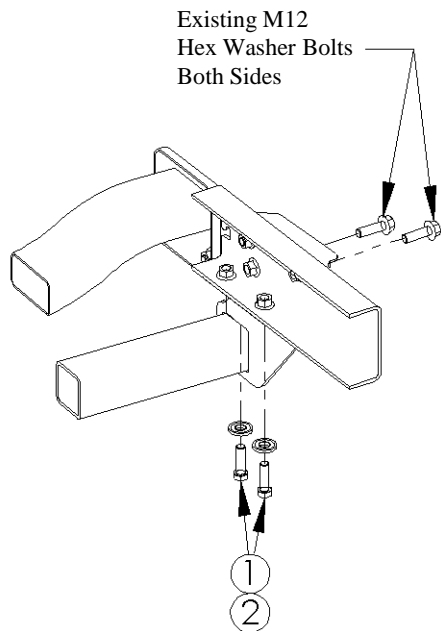

Figure 3
①	Qty. (4)	Conical Washer, 1/2"	③	Qty. (4)	Spacer
②	Qty. (4)	Hex Bolt, M12 x 40 x 1.25
3. Raise the hitch into position so that the side brackets on the hitch are sandwiched between the bumper brackets and frame rails. Install the M12 x 1.25 x 40 bolts and washers and finger tighten. See Figure 3.
4. Loosely reinstall the four (4) hex washer bolts that were removed in Step 2. See Figure 3.